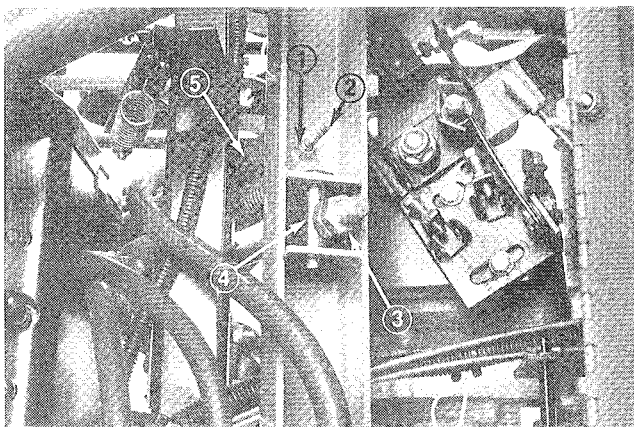

Figure 26
5. Check distance between clevis pin and bottom of loops on springs. Distance should be .25" or less (Fig. 26 & 27).
2. Measure distance between cylinder jam nuts and cylinder pivot pin (Fig. 26). Distance should be approximately 2-1/4".
6. Adjust nut on lift arm "T" hook to obtain required distance (Fig. 26).